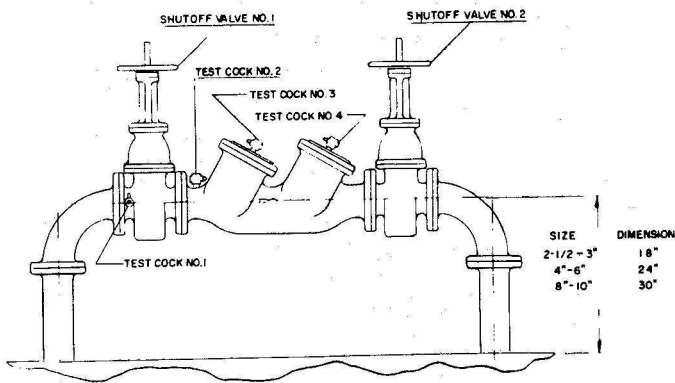

FIGURE 5
A. WARM CLIMATE ABOVE GROUND INSTALLATION (Fig. 5)